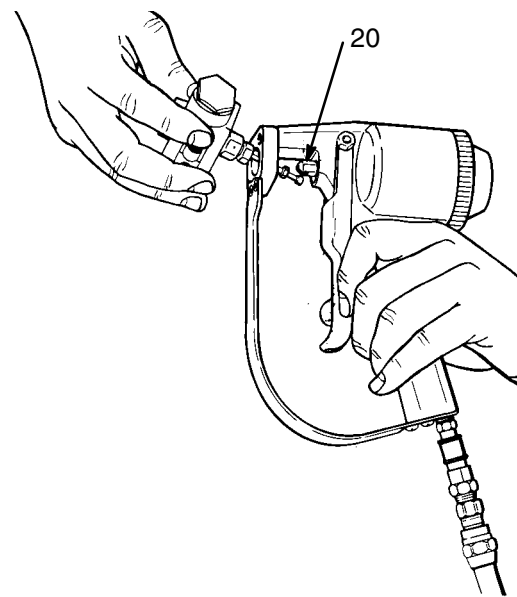

Fig. 13
5. Tilt the nozzle housing up and disengage the needle ball from the piston (20) rod. Remove the housing from the gun. See Fig. 13.